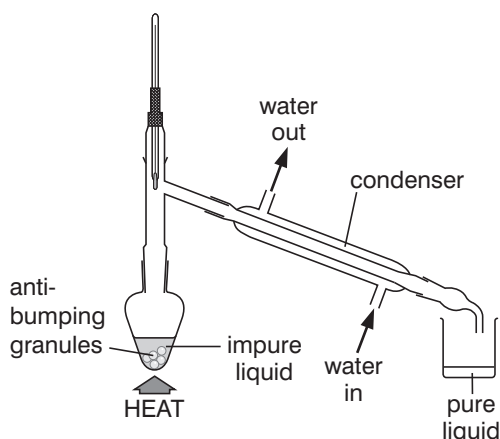

Figure 2 Apparatus for a simple distillation
- 8 Set up clean and dry apparatus for a simple distillation, complete with thermometer (see Figure 2). The thermometer bulb should be opposite the side-arm so that it measures the temperature of the liquid that distils over.